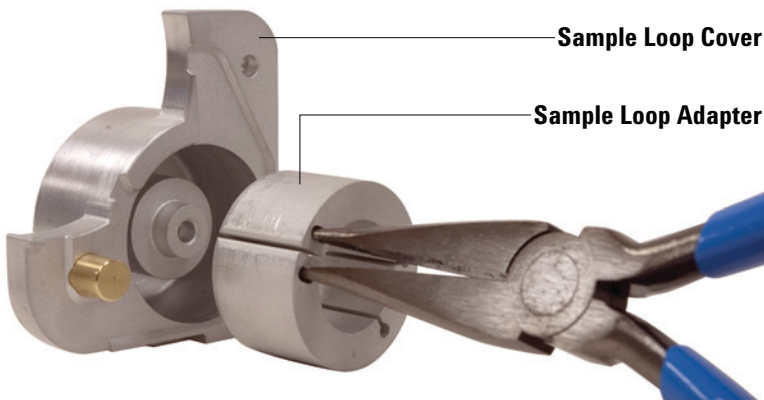

Figure 30 Removing a sample loop adapter (G4556-20178 shown) from the loop cover (loop cover shown, the valve/loop cover is similar)
- a Grip the sample loop adapter using needle nose pliers in the locations shown in Figure 30.
- b Squeeze the needle nose pliers together and gently pull the sample loop adapter from the block or cover as shown in Figure 30.